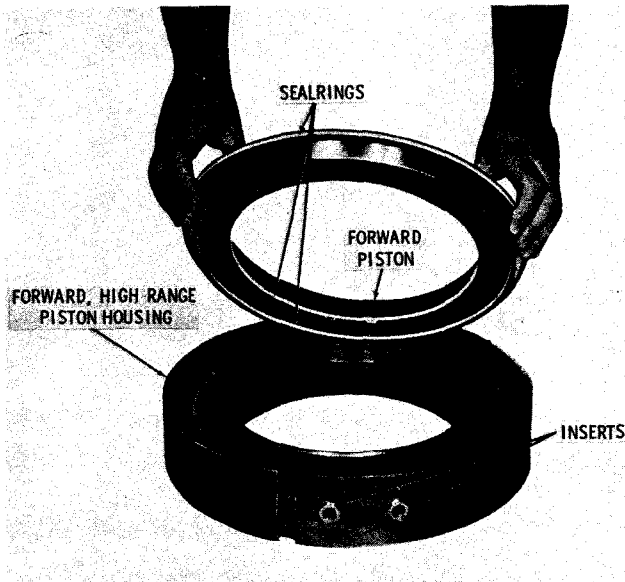

Fig. 7-11. Installing forward piston into piston housing
(4) Install the two sealrings and inserts into the outer circumference of the forward-and-high range piston housing (fig. 7-11). Oil the piston seals and install the forward piston (as assembled in para 6-11) into the piston housing. Oil the piston seals